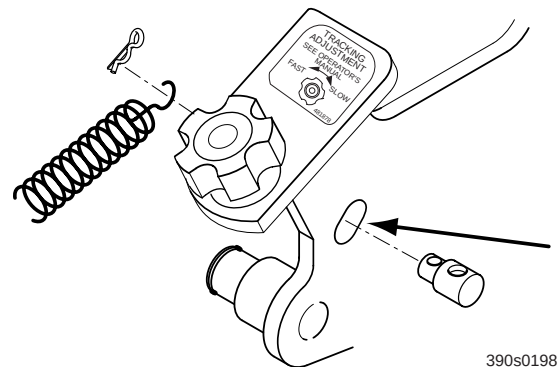

Figure 13. Control Rod Adjustment
3. Reinstall the speed control spring onto the swivel. Install the hair pin onto the swivel. (See Figure 13)